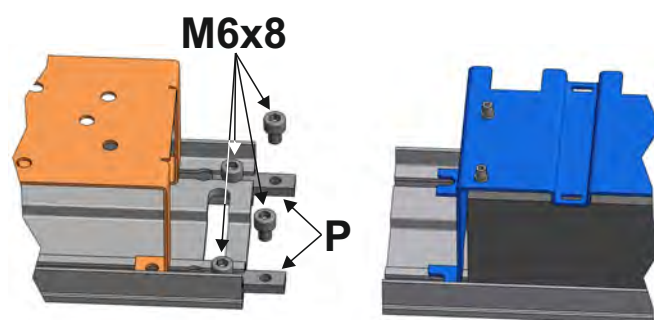

FIG.4
- Detach the N-BAT module from the Neptis operators, unscrewing the M6X8 screws fixing the coupling plates (P) between the two parts;
- Place the N-BAT module on the side of the PWN-T power supply unit, inserting the coupling plates (P) into the special grooves and screwing in the M6x8 screws (FIG.4);